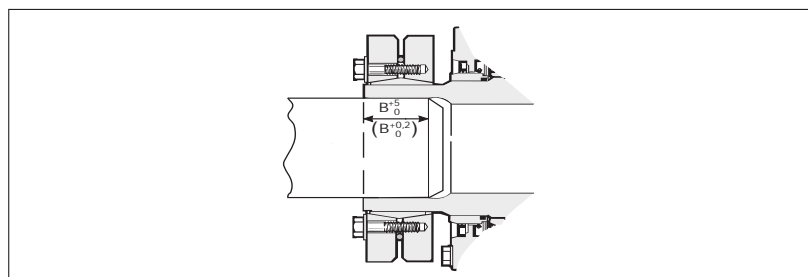

Fig. 3.13 Without stress relieving groove
- You should note that the couplings are from the factory lubricated with MoS₂ (Molykote) on the conical surfaces and the bolts, see fig. 3.13. This lubricants shall remain on those surfaces but:
Ensure that the full clamping length is used by, for example, measuring and marking the driven shaft. This is of particular importance if the duty is so severe that a stress relieving groove has been made on the driven shaft. See fig. 3.13, 3.13a and the table 3.9.